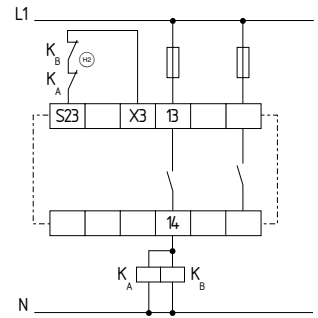

Fig. 10
**Dual-channel control with feedback circuit (Fig. 10)**
- (FB) = feedback circuit: